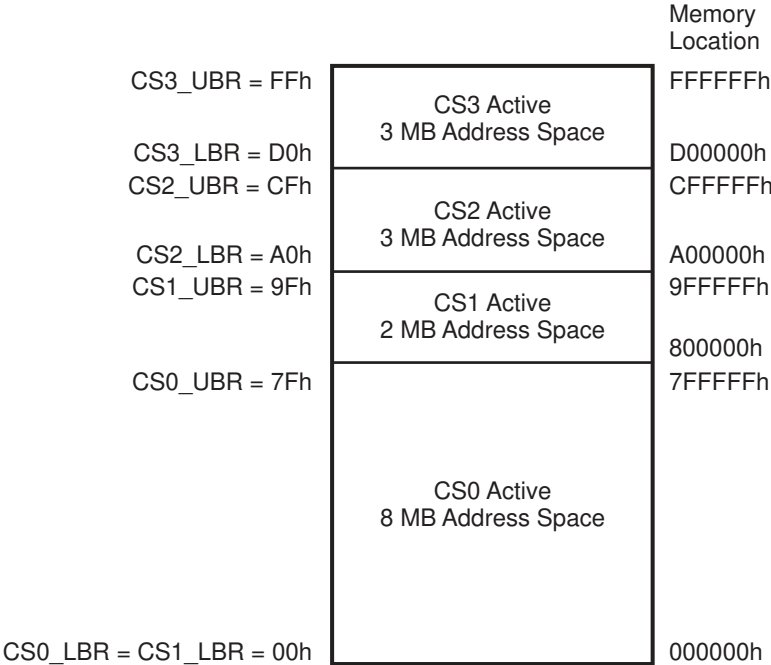

Figure 4. Memory Chip Select Example
The use of Memory Chip Selects is illustrated in Figure 4. The associated control register values are listed in Table 13. In this example, all 4 Chip Selects are enabled and configured for memory addresses. Also, CS1 overlaps with CS0. As CS0 has the higher than CS1, CS1 is not active for much of its defined address space.
**Table 13. Register Values for Memory Chip Select Example in Figure 4**